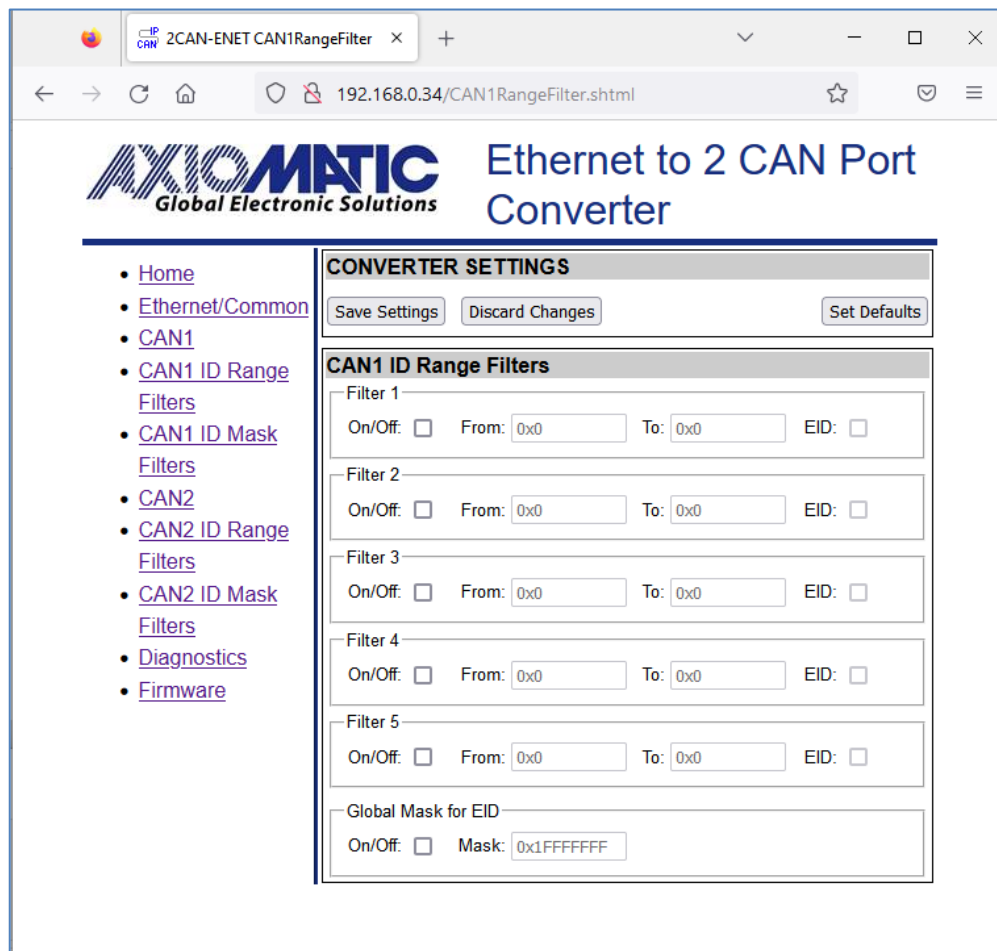

Figure 13. Converter CAN ID Range Filters Page
The CAN ID range filters are set through the *CAN1(2) ID Range Filters* configuration webpage for each CAN port, see Figure 13.